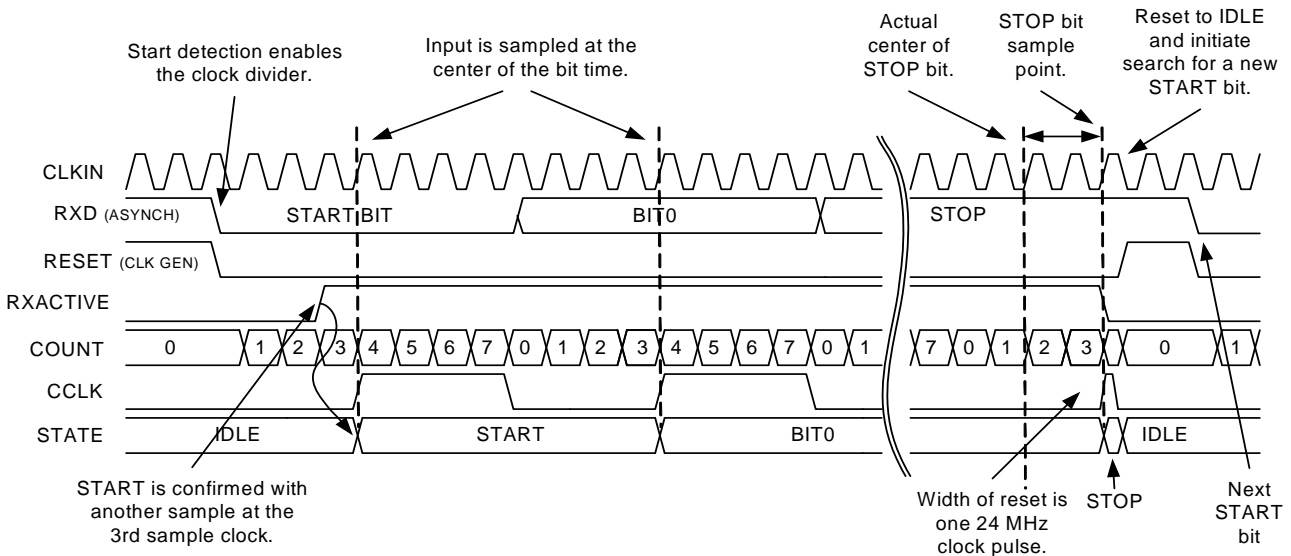

Figure 17-28. Clock Generation and Start Detection
**Clock Generation and Start Detection.** The input clock selection is a free running, eight times over-sampling clock. This clock is used by the clock divider circuit to generate the block clock at the bit rate. As shown in Figure 17-28, the clock block is derived from the MSb of a 3-bit counter, giving a sample point as near to the center of the bit time as possible. This block clock is used to clock all internal circuits.
As shown in Figure 17-28, the internal bit clock (CCLK) is running slower than the external TX bit clock and the STOP bit is sampled later than the actual center point. After the STOP bit is sampled, the 24 MHz reset pulse forces the Receiver back to an idle state. In this state, the next START bit search is initiated, resynchronizing the RX bit clock to the TX bit clock.